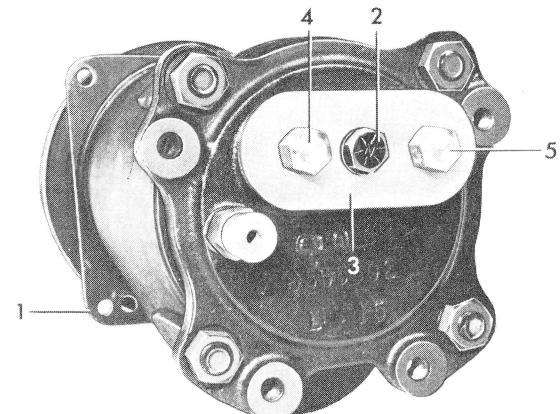

Figure 2
**3** Connect hose line (10) on center connection of gauge set (2) and on upper valve (13) of filling cylinder (12) (refer to Job No. 83.0-840, Fig. 2).
**4** Connect both hose lines (5 and 9) to gauge set (2) and to Schrader valves (suction and discharge connection) on pressure test plate (3) (refer to Fig. 2 and Job No. 83.0-840, Fig. 2).